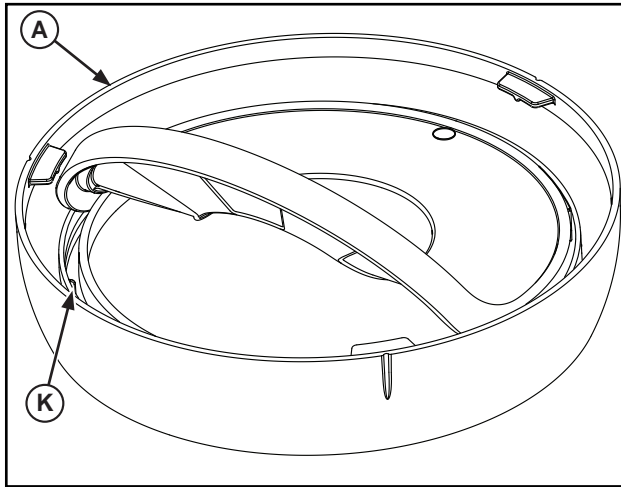

Figure 2. Installing Gasket onto Bezel
NOTE: Be certain that gasket fully seats in the bezel (A) groove, secured by the five tabs (K). See Figure 2.
4. Replace gasket with desired size, making certain that gasket fully seats in the bezel groove, secured by the five tabs (K) on bezel (A). See Figure 2.